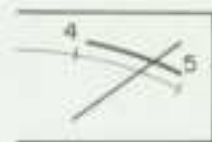

Fig. 18 Meter deflection
12. Set the FM signal generator output to 100dB, and adjust  $VR_2$  for maximum deflection at the signal meter (Fig. 18).